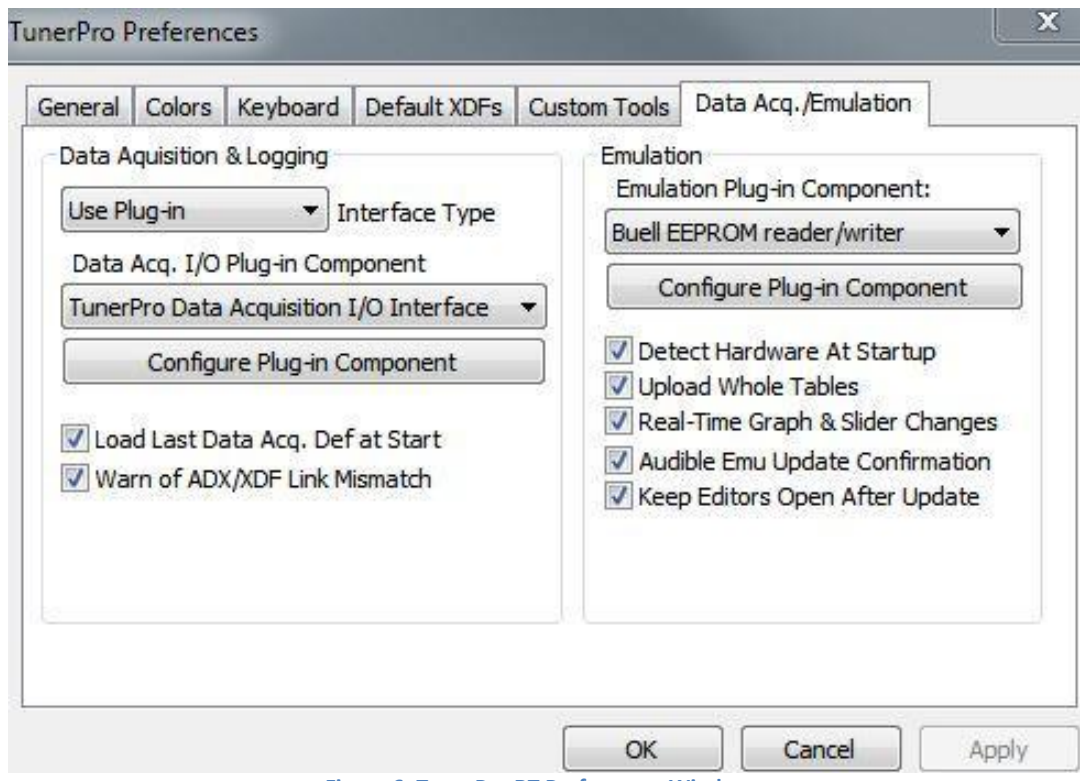

Figure 6: TunerPro RT Preferences Window
- b. Open TunerPro RT and click “Tools” from the drop-down menu, then select “Preferences” at the bottom of the Tools menu, which should look like Figure 6 below: